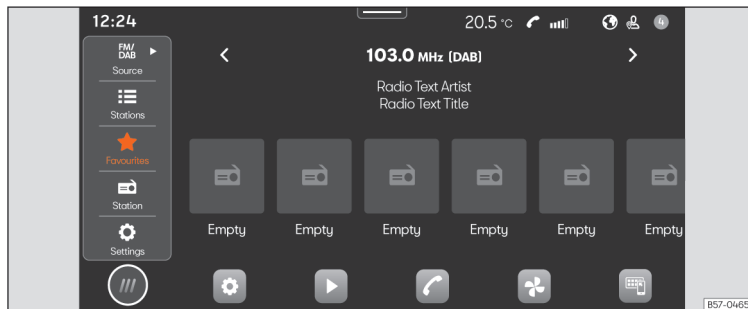

Fig. 138 Schematic representation: Radio view.
- Press **HOME** > >>> **Fig. 138**.